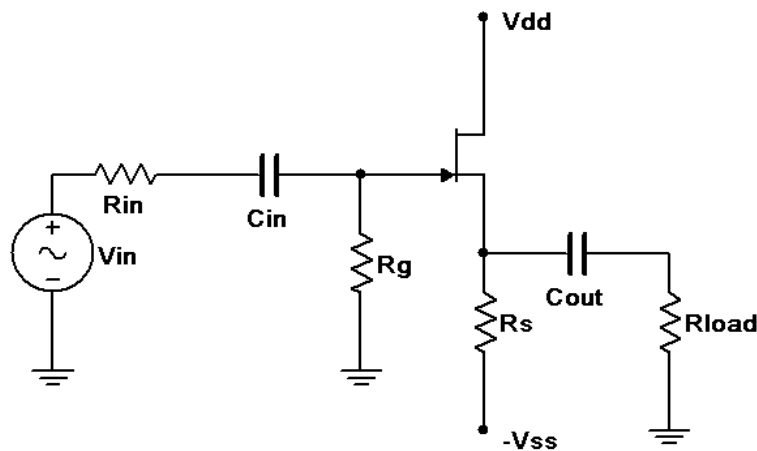

Figure 16.2
5. Consider the circuit of Figure 16.2 using  $V_{dd} = 15$  volts,  $V_{ss} = -3$  volts,  $R_{in} = 33$  k $\Omega$ ,  $R_g = 330$  k $\Omega$ ,  $R_s = 4.7$  k $\Omega$ ,  $R_{load} = 22$  k $\Omega$ ,  $C_{in} = 10$   $\mu$ F and  $C_{out} = 470$   $\mu$ F. Assuming  $V_{GS} = -2$  volts and  $g_m = 2$  mS, determine the theoretical gain and input impedance of the circuit and record these in Table 16.2.
6. Build the circuit of Figure 16.2 using  $V_{dd} = 15$  volts,  $V_{ss} = -3$  volts,  $R_{in} = 33$  k $\Omega$ ,  $R_g = 330$  k $\Omega$ ,  $R_s = 4.7$  k $\Omega$ ,  $R_{load} = 22$  k $\Omega$ ,  $C_{in} = 10$   $\mu$ F and  $C_{out} = 470$   $\mu$ F. Set  $V_{in}$  to a 100 mV peak sine at 1 kHz. Measure the voltages at the gate and load, and record these in Table 16.2. Capture images of the input and gate voltages, and the gate and load voltages. Note whether or not the load is inverted compared to the gate signal.